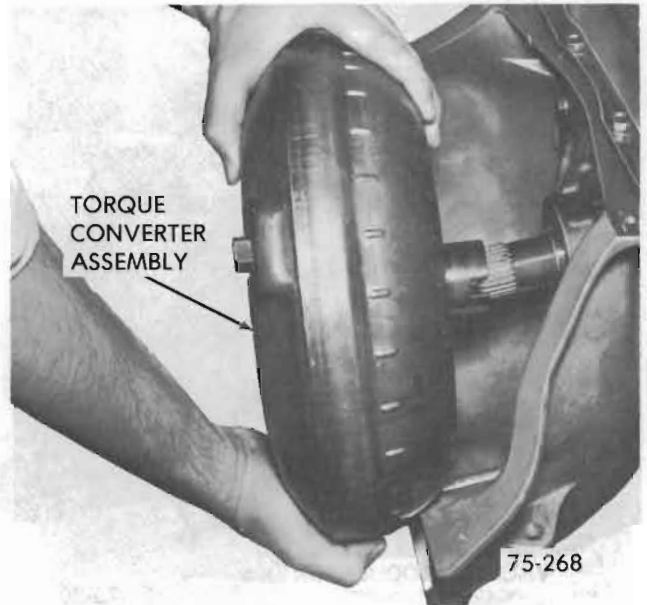

Figure 75-287
C. Install Converter. See Figure 75-287.